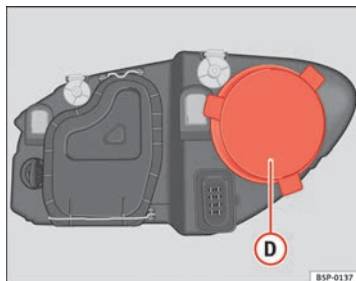

Fig. 184 Side lights
- Remove the cover => fig. 184 **D** by pulling on this.